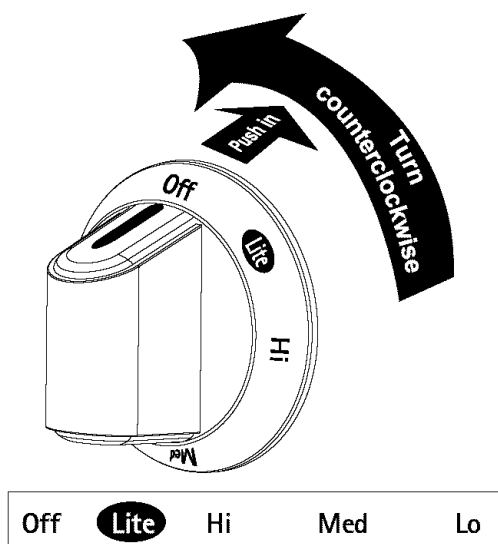

Figure 1
2. Push the surface control knob down and turn **counterclockwise** out of the OFF position (See Figure 1).